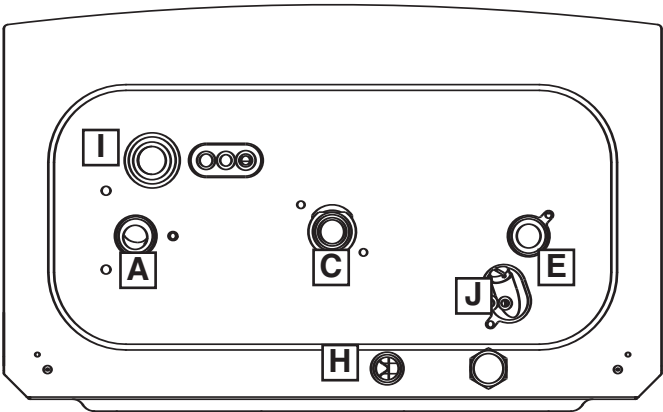

FIG. 2.5
2.5.2. Position the appliance on the hanging bracket and connect the connection kit to the boiler connections. (see also Sections 2.7 Gas Connections, 2.8 Water Connections & FIG. 2.5).
A flexible hose is supplied for connection to the condensate discharge point H (Fig. 2.5). The condensate discharge hose from the boiler must have a continuous fall of 2.5° and must be inserted by at least 50 mm into a suitable acid resistant pipe - e.g. plastic waste or overflow pipe. The condensate discharge pipe must have a continuous fall and preferably be installed and terminated within the building to prevent freezing.